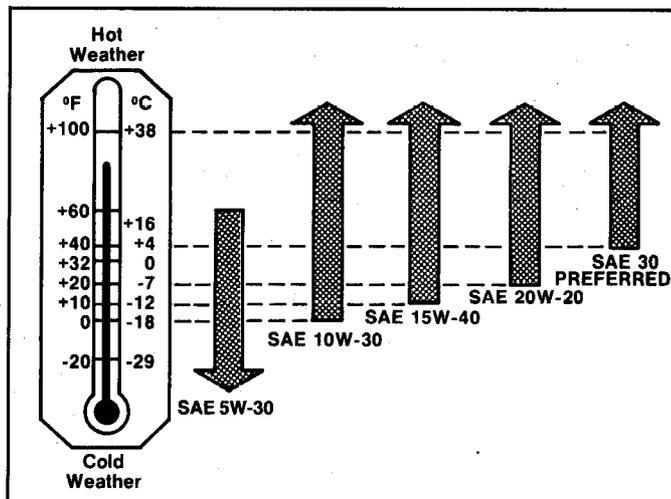
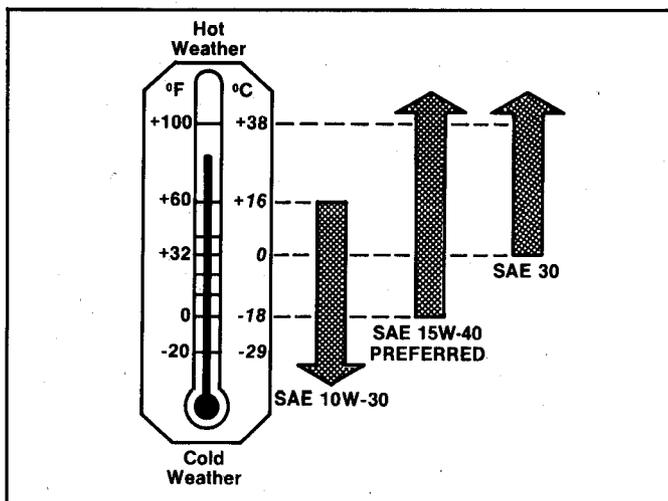

Figure 7-8 — Oil Viscosity Chart — Gasoline Engine
Figure 7-9 — Oil Viscosity Chart — Diesel Engine
When choosing an oil, consider the range of temperature your vehicle will be operated in before the next oil change. Then, select the recommended oil viscosity from the applicable chart shown in Figure 7-8 or Figure 7-9.
**NOTE:** 10W-40 is missing from the chart shown in Figure 7-8. 10W-40 has been removed from all GM recommendations, because GM Research Laboratories have found generally a 1.2% fuel economy penalty compared to 10W-30. Of the oils surveyed, some contained inadequate additives or even no additives and some did not meet the 10W-40 viscosity requirements. GM testing showed 10W-40 oils tended to be more prone to high mileage ring sticking. These problems appeared more frequently in 10W-40 oils than in 10W-30 oils.
Notice that on the temperature chart shown in Figure 7-8, there is a trend away from the thinner viscosities as temperature goes up. The reason is that light oils do not have enough body for heavy-duty loads and high temperatures.
Study the chart shown in Figure 7-9 carefully and follow its recommendations. As always, NEVER exceed the recommended oil change intervals since oil quality deteriorates rapidly with mileage, as carbon accumulates in the oil.